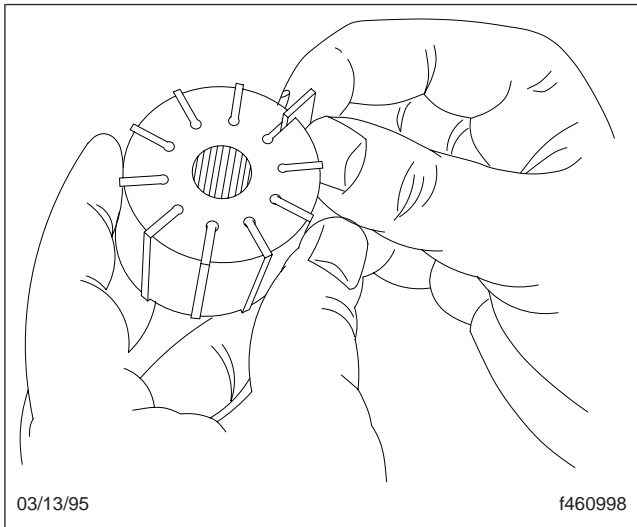

Fig. 22, Checking the Vanes
7. Check the vanes on the rotor for damage or too much play in the rotor slots. See Fig. 22. If you can move the vanes from side-to-side in the slots, replace the whole rotor assembly.